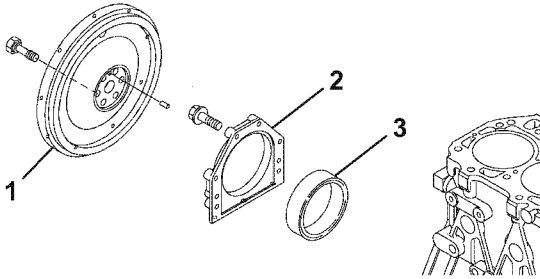

Figure 6-101
7. Apply ThreeBond Liquid Gasket No. 1207F, YANMAR Part No. 977770-1207F to the mounting flange of the seal housing (2, **Figure 6-101**).
10. Reinstall the flywheel (1, **Figure 6-101**) and tighten the bolts to the specified torque. See *Special Torque Chart* on page 6-15 for specifications.